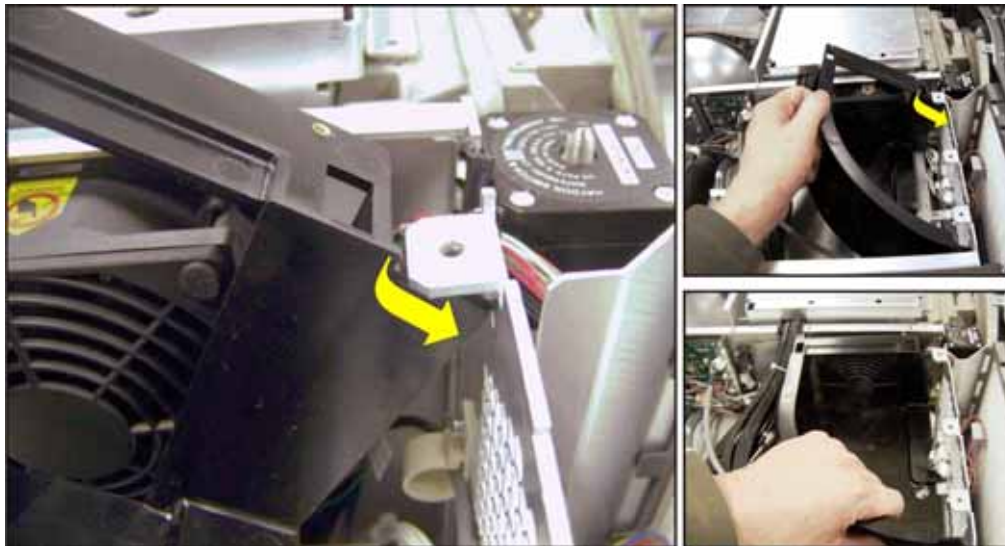

Figure 5-14 Reinstalling Intake Duct
5. Reverse the above steps to install. **NOTE:** *When reinstalling, tilt the duct on an angle to clear the flange (Figure 5-14).*